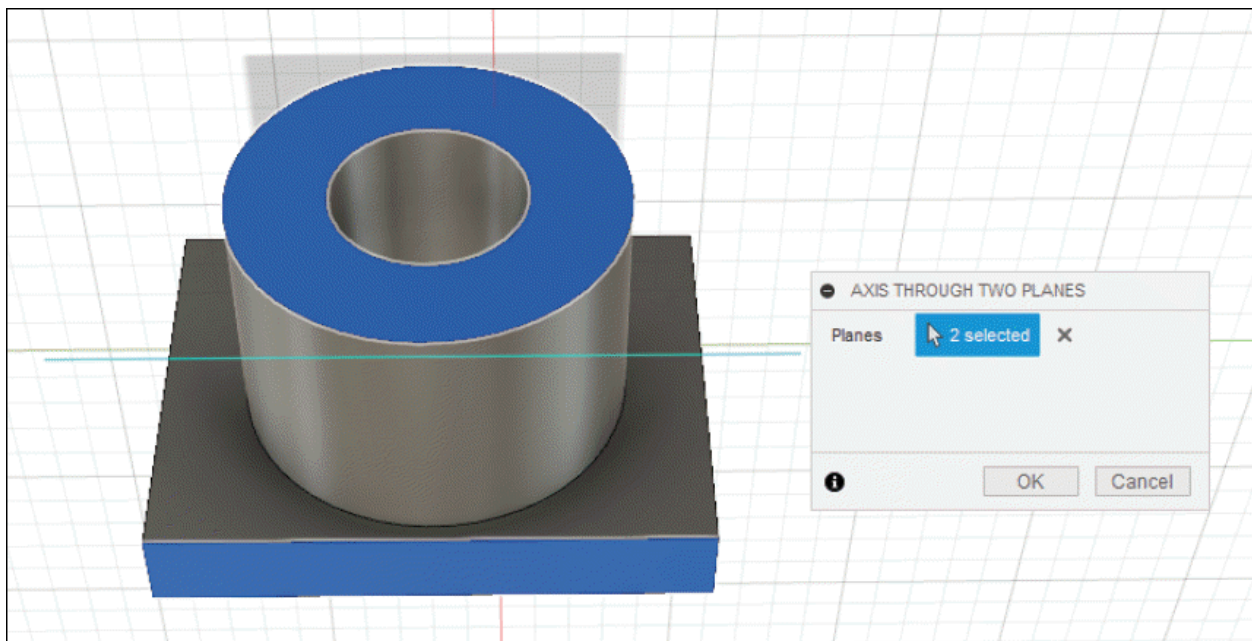

Figure-111. Preview of axis through two planes
- On selecting the second plane, preview of axis will be displayed; refer to Figure-111.